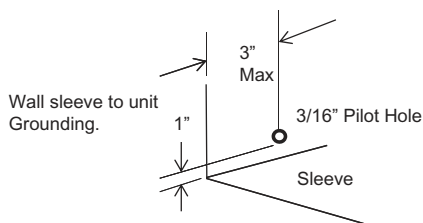

Fig.2
4. If the unit has not been predrilled (some models), carefully drill 4 - 1/8" holes through the grille and into the side flange of the unit approximately 1 1/2" to 2" from the top and bottom as in Fig. 2 & Fig. 3.
From the installation kit, apply two 1" x 3/4" x 14" seals along the flat metal flange of the condenser. (See Fig. 2).